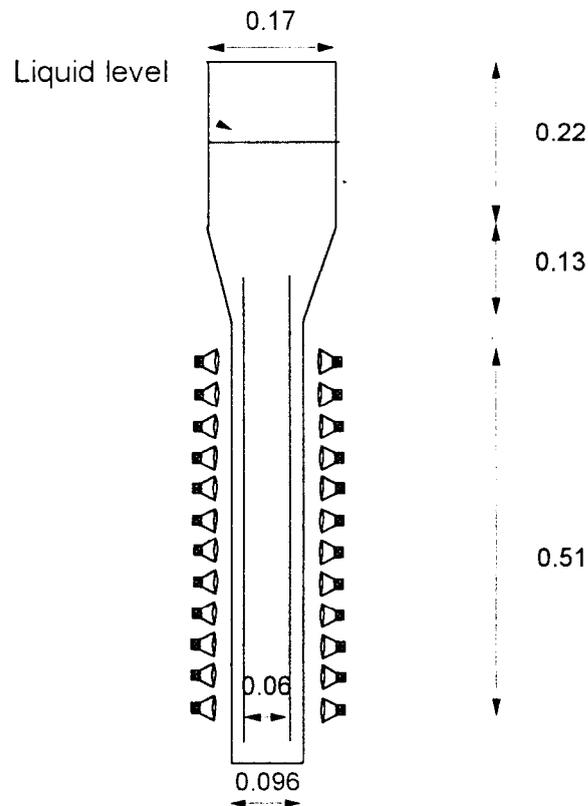

Figure 2. Current air-lift bioreactor configuration (reactor 1).
- the air-lift reactor presently used (reactor 1, figure 2)